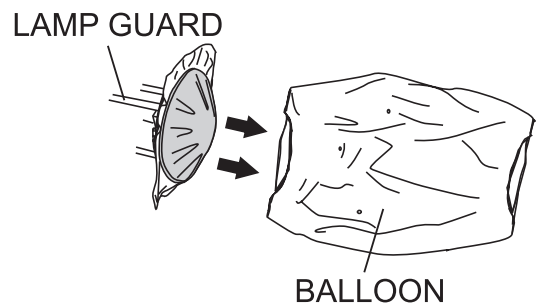

Figure 29. Removing the Balloon
2. Unzip the zipper at the bottom and top of the balloon. Slide the balloon over the top of the lamp guard as shown in Figure 29.